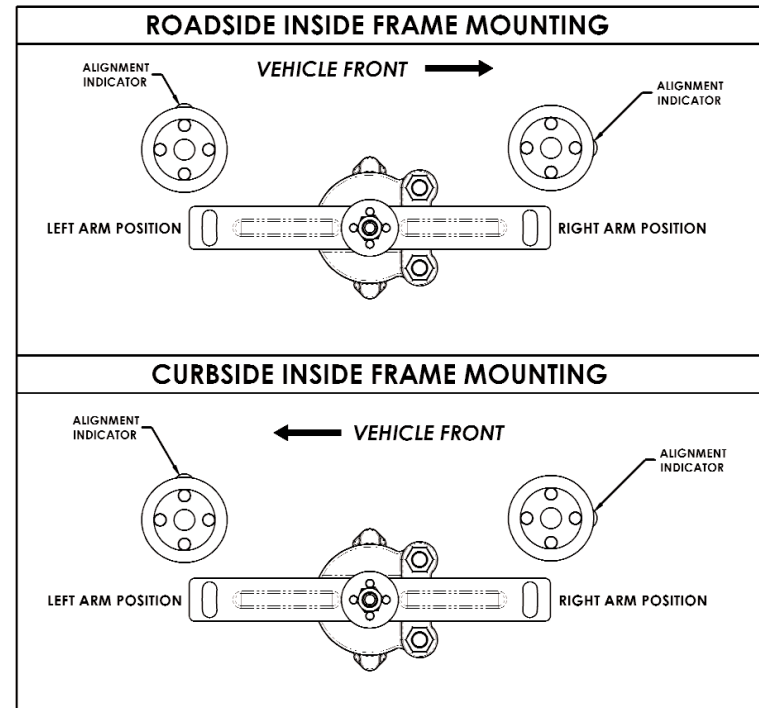

Figure 3
Fasten the control arm to the interface cap and shaft making sure the alignment identifier dimple on the interface cap is in the proper position for your valve orientation. Refer to **Fig. 3 & 4** for proper alignment identifier orientation. Use the provided nylok nut and tighten to 25-30 in-lbs. **DO NOT** over torque this nylok nut; it could result in a damaged or broken shaft.
- Determine if the control arm and alignment identifier dimple on the interface cap are in the proper orientation. Refer to **Fig. 3 & 4**.